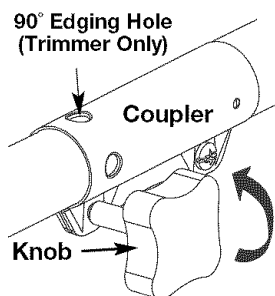
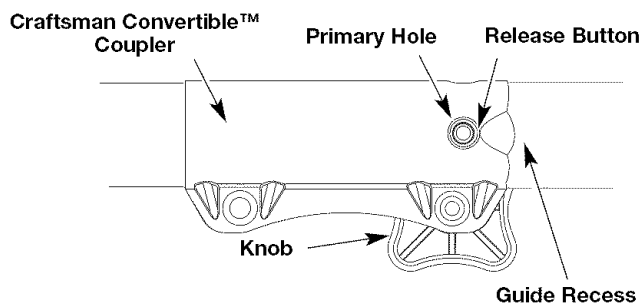

Fig. 15
Fig. 16
2. Turn the knob counterclockwise to loosen coupler (Fig. 15).
3. Push in the release button (Fig. 16) and twist the shaft 90° until the release button snaps into the 90° hole (Fig. 15).
2. Turn the knob counterclockwise to loosen the coupler (Fig. 15).
3. While firmly holding the attachment, push it straight into the coupler until the release button (Fig. 16) snaps into the primary hole (Fig. 16). The primary hole is on the opposite side of the coupler from the knob (Fig. 16). Align the release button with the Guide Recess (Fig. 16) to help installation.
3. Press and hold the release button (Fig. 16).